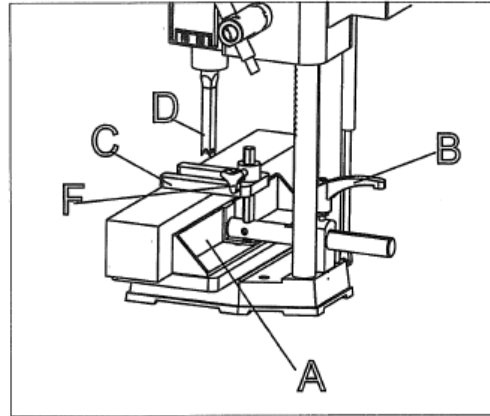

Fig.10
See Fig. 10. The fence (A) can be moved in or out by loosening the lever (B), sliding the fence to the desired position and tightening lever (B). Note: lever (B) is spring-loaded and can be repositioned by pulling out on the lever and repositioning it on the serrated nut located underneath the lever.